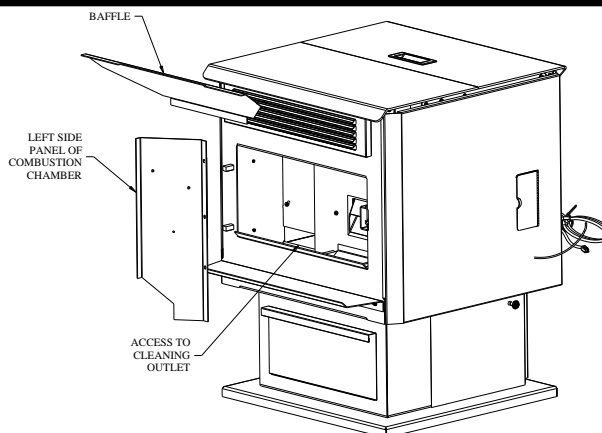

FIGURE 22
- Chamber walls:** Periodically, you must vacuum the ashes that may have accumulated on the main walls of the combustion chamber. START BY REMOVING THE DECORATIVE MASONRY-LIKE PANELS, WHICH ARE SIMPLY HELD BY SCREWS. Scrape off ashes. Use a vacuum is necessary. There is also a cleaning outlet located behind the left side panel of the combustion chamber. Remove this panel using a screw driver. You will notice a small rectangular cleaning outlet. Inspect behind this outlet (see figure 22) Insert the vacuum tip through the cleaning outlet and clean thoroughly. REPEAT THIS OPERATION AT LEAST ONCE PER TON OF PELLETS BURNED UNTIL YOU ARE FAMILIAR WITH HOW ASHES ACCUMULATE WITH YOUR OPERATING PRACTICES.